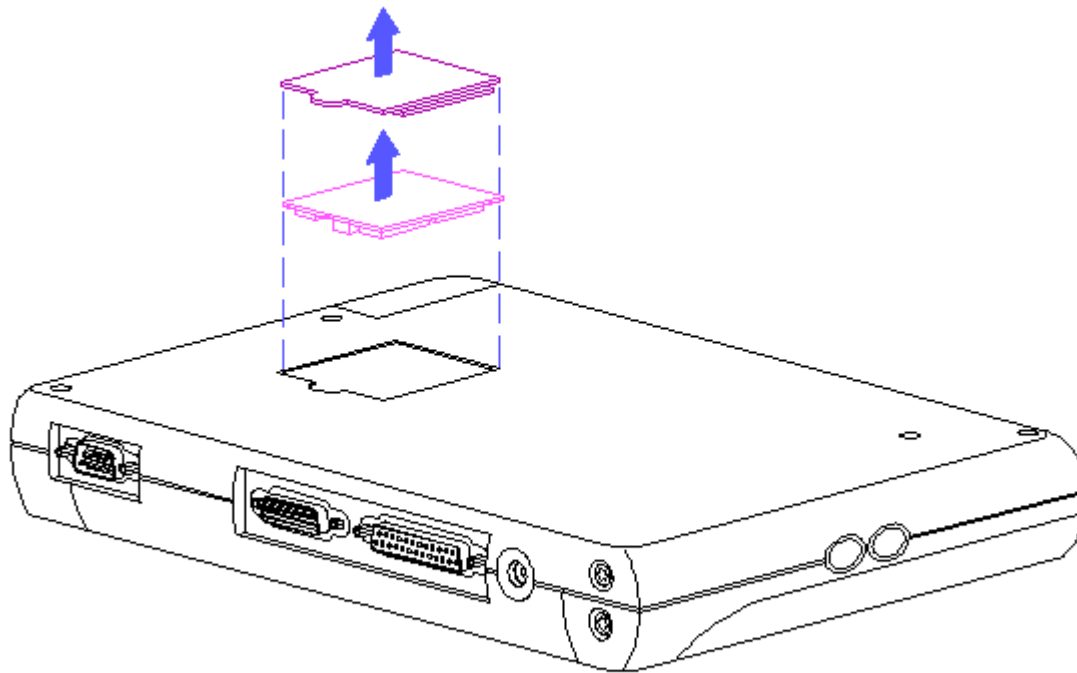

Figure 5-1. Memory Expansion Board Location
Recommended Action: 1. Replace the memory expansion board (Figure 5-1).
Recommended Action: Replace the memory expansion board (Figure 5-1).
2. Remove memory expansion board and retest (Figure 5-1).
Recommended Action: Replace memory expansion board (Figure 5-1).